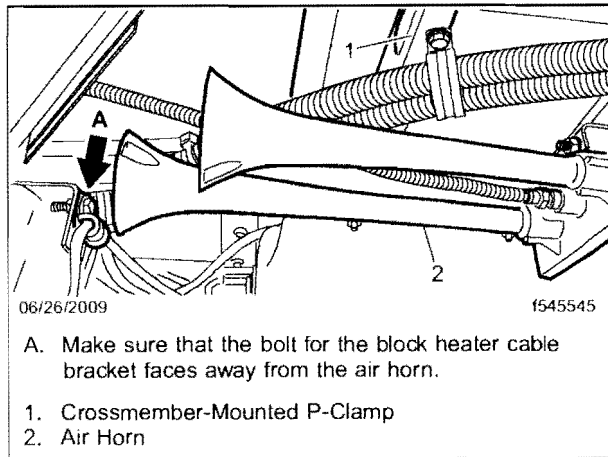

Fig. 5, Battery Cable Mounting
15. Secure the cable to the cab crossmember with a 1/4-20 bolt, flatwasher, lockwasher, and a nut. Tighten the nut 12 lbf-ft (16 N-m). See **Fig. 5**.